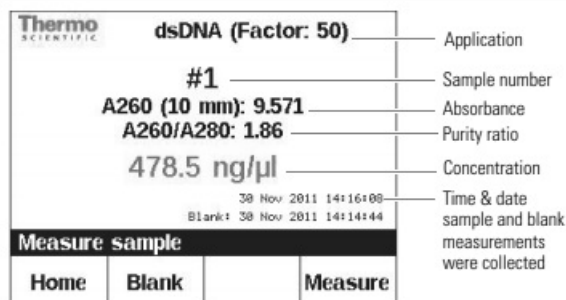

Figure 2. Illustration of NanoDrop™ Lite Spectrophotometer results screen.
- 60 Measure the sample by pipetting 1  $\mu\text{L}$  (mix the DNA with the pipette) of the sample in the lower pedestal, then, lower the upper pedestal and press Measure. Once ready, the equipment screen displays the results (Figure 2). Lift the pedestal and clean the upper and lower pedestal with Kimwipes and the instrument is ready to measure the next sample.
The PCR is aimed to amplify the ITS1 region of rDNA (Figure 2-A). The primers used are ITS1F (5'-CTTGGTCATTTAGAGGAAGTAA-3'; Gardes and Bruns, 1993) and ITS2 (5'-GCTGCGTTCTTCATCGATGC-3'; White et al. 1990).
The PCR program is indicated in the Figure 2-C.